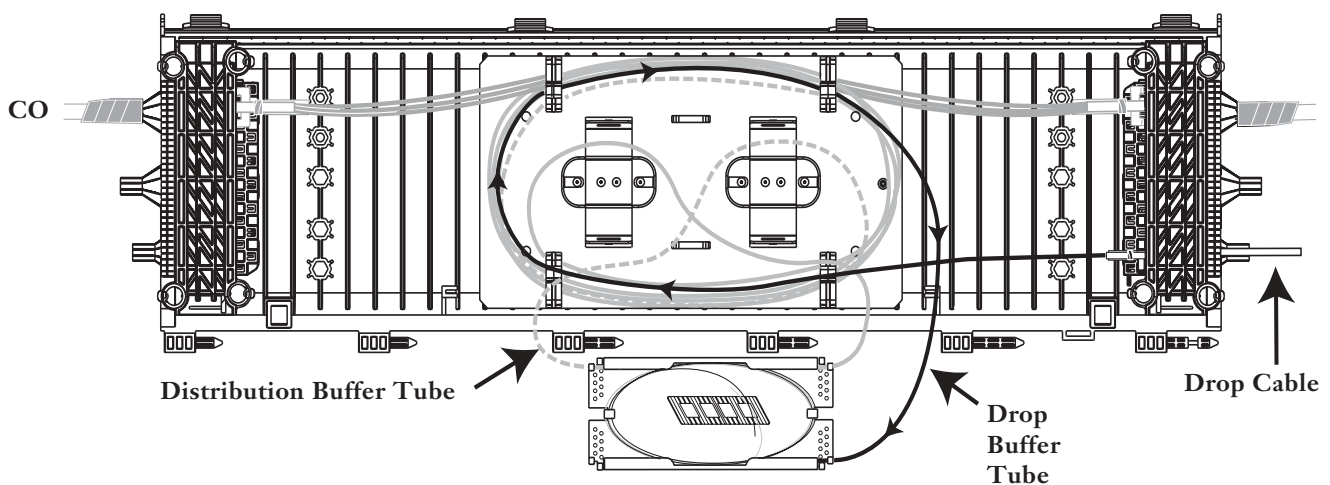

Figure 18 — Drop Buffer Tube
- Step 2** Continue routing buffer tube to the corner of the splice tray (Figure 18).